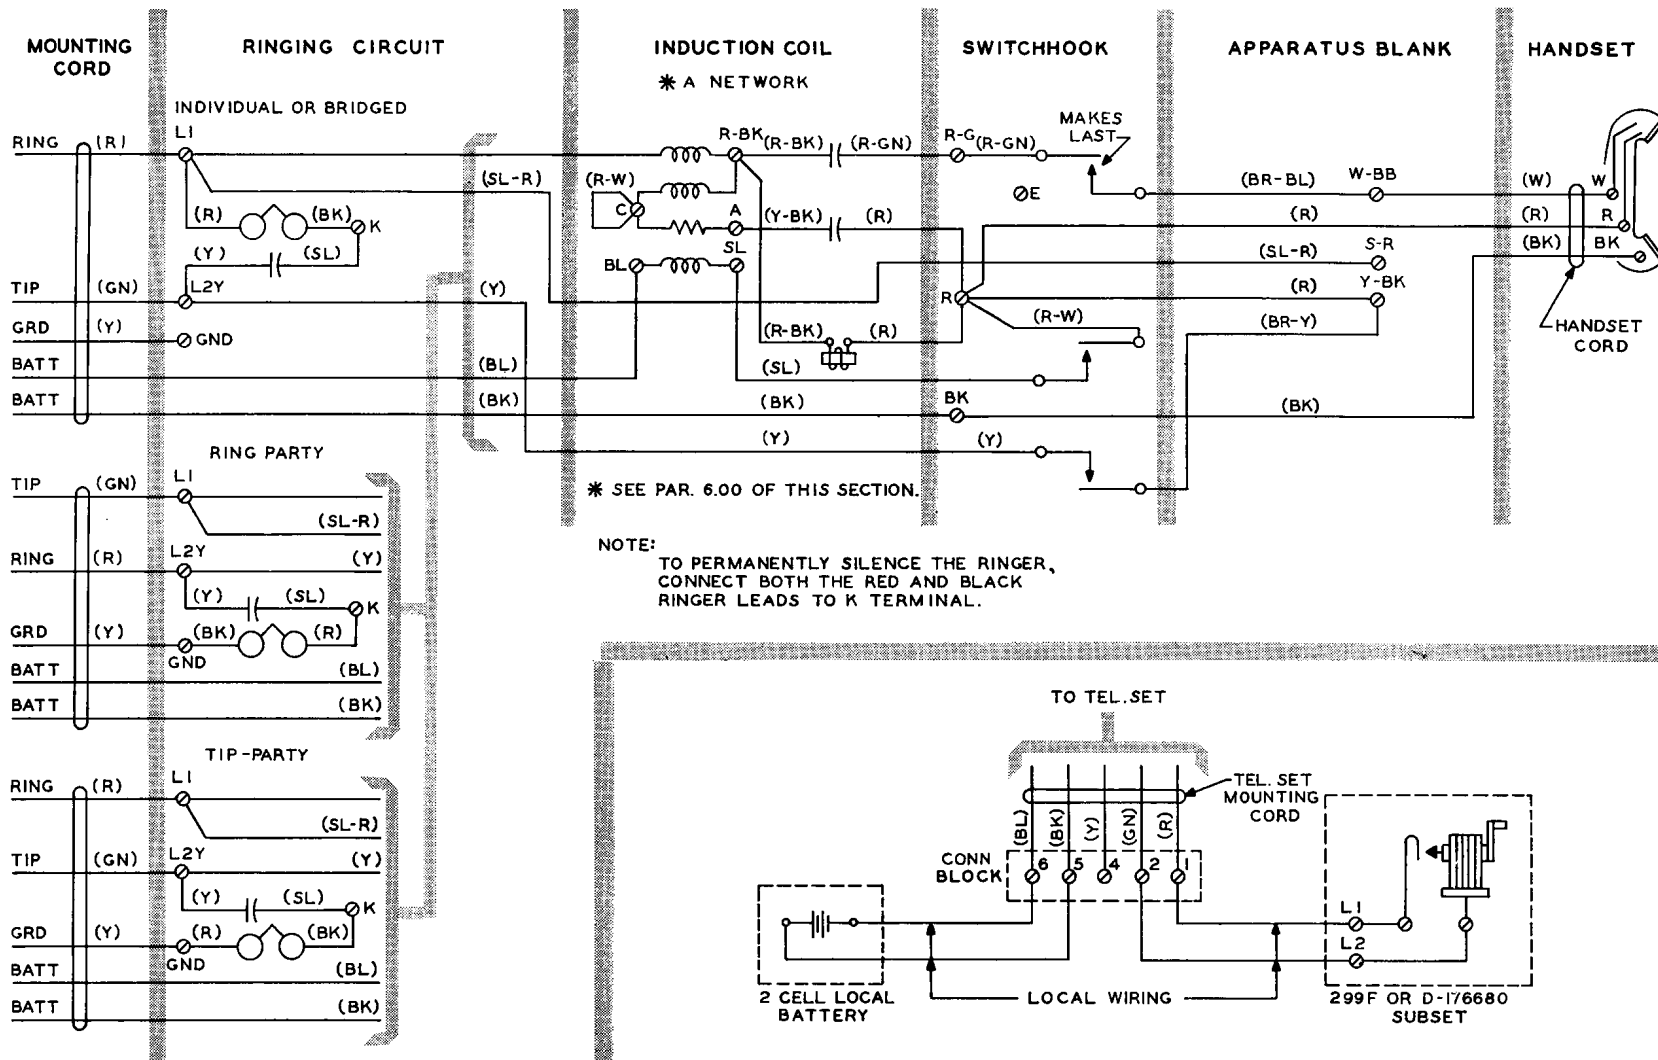

FIG. 5—307A TELEPHONE SET WITH MAGNETO CONNECTIONS (CIRCUIT DIAGRAM)
5.01 Where the transmitter battery for more than one station is obtained from a common source of supply, such as battery feed from the central office, the following changes in Fig. 5 must be made:
- Connect the red, black, and white conductors of the F2 handset in the same way as shown for the F1 handset in Fig. 5.
6.02 This set is normally furnished with the type A network as indicated in Fig. 5. Necessary changes in the set to obtain other networks are as indicated below: